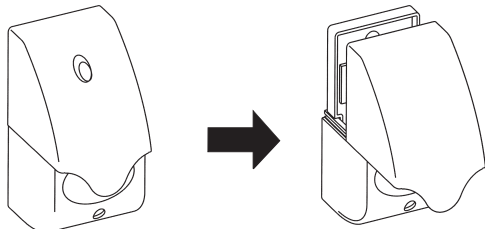

Figure 3
8.2 Remove cover of the Alerter battery compartment holding on the diffusing filter (1) and at the same time pulling cover (2) upwards (See Figure 3)
11.2 Install battery compartment cover, for this purpose hold diffusing filter, insert cover into runner slides (8) and push until tight (see Figure 3).